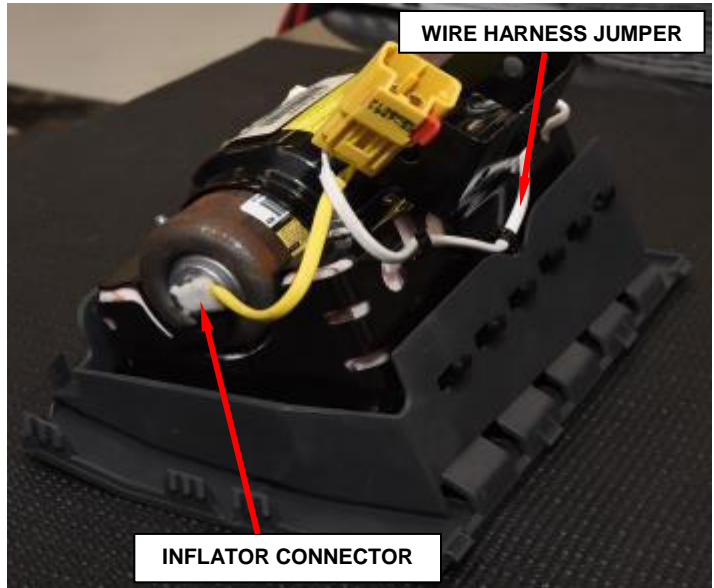

Figure 5 – Inflator Connector
b. Disconnect the single yellow wire inflator connector from the end of the inflator using pliers (Figure 5).
- q. Connect the single yellow wire inflator connector to the end of the inflator after removing the protective tape from the end of the inflator (Figure 5).